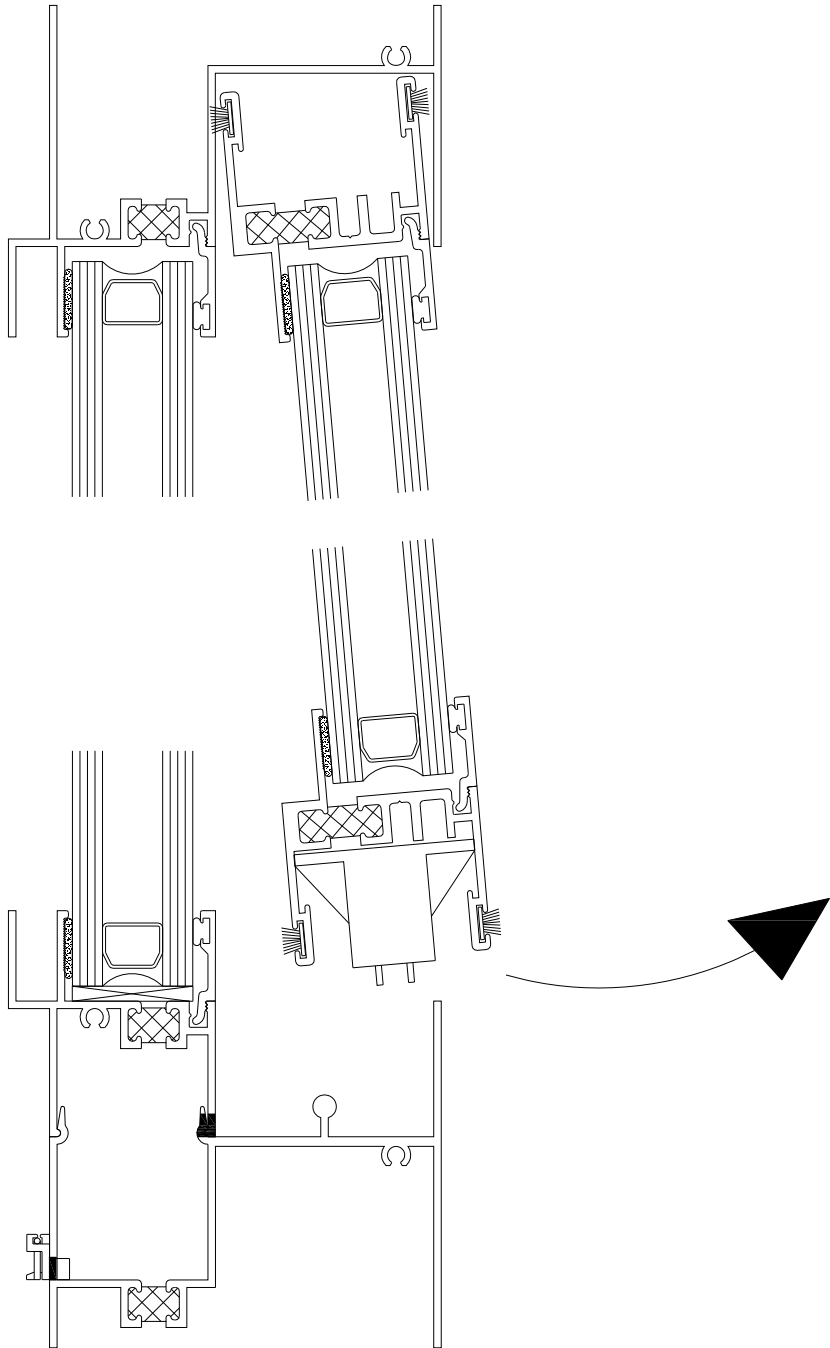

FIGURE 23-1
- B. Remove sash by opening slightly (4" to 6"). Lift the sash up to the head channel and pull out at the bottom (see Figure 23-1).